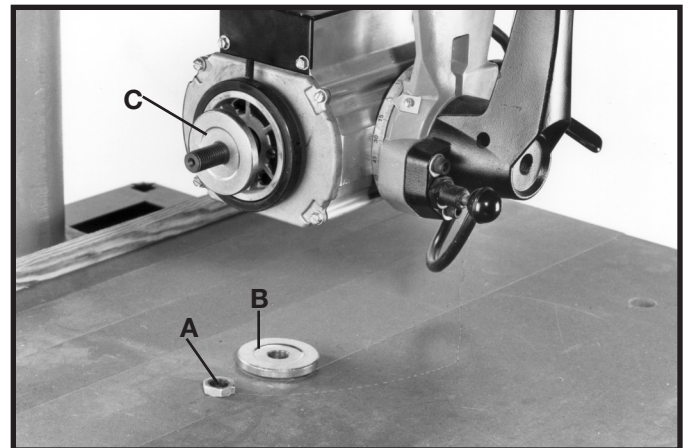

Fig. 29
2. Remove arbor nut (A) Fig. 29, and outside blade flange (B). **NOTE: THE BLADE IS TO BE ASSEMBLED BETWEEN THE TWO BLADE FLANGES (B) AND (C) WITH THE RECESSED SIDES OF THE FLANGES AGAINST THE SAW BLADE.**